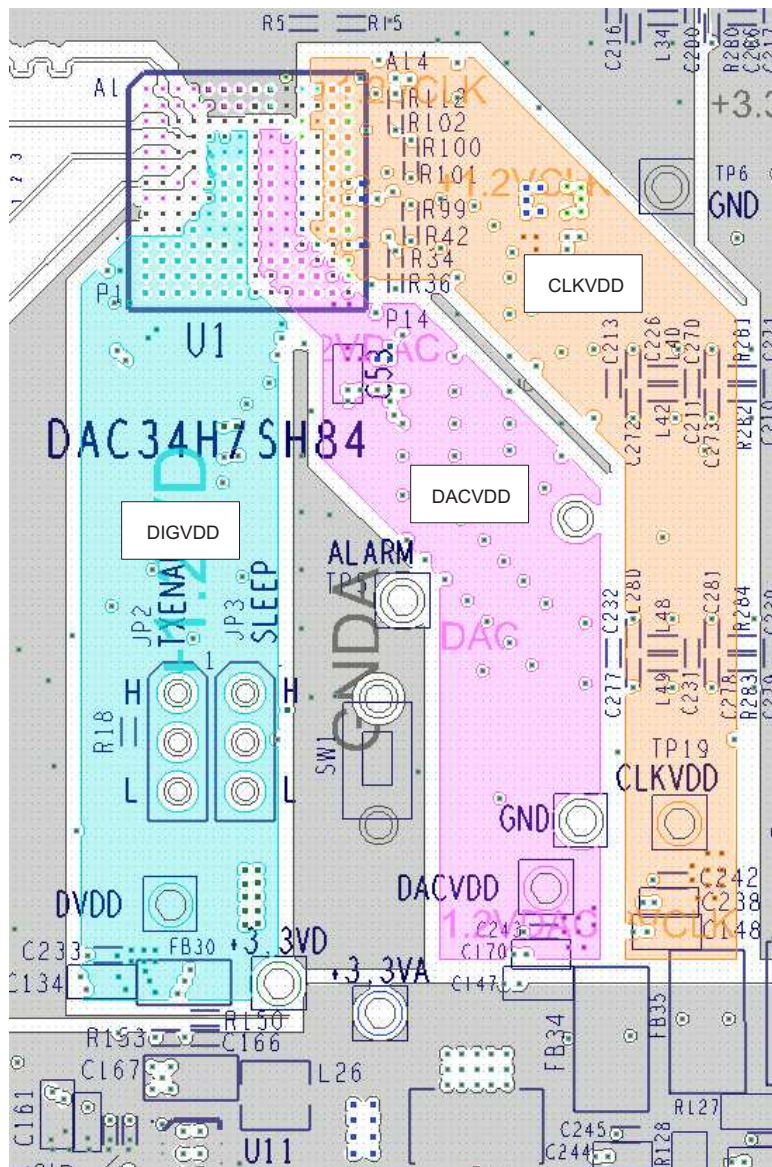

Figure 98. Third Layer of DAC34SH84 Layout Showing Power Layers. Layout Example from DAC34SH84EVM Rev H
The following layout guidelines correspond to the layouts shown in Figure 98 and Figure 99.
2. As shown in Figure 98 and Figure 99, both layers three and four are designated for power supply planes. The DAC analog powers are all in the same layer to avoid coupling with each other, and the planes are copied from layer three to layer four for double the copper coverage area.